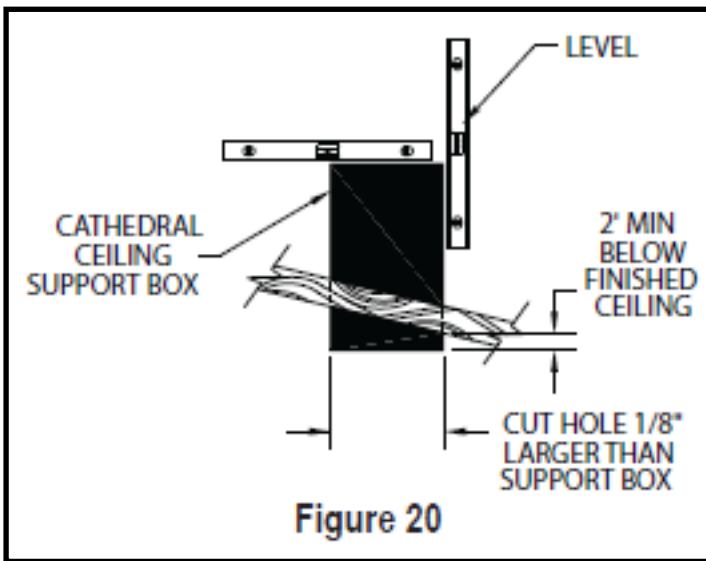

Figure 20
Step 4. Lower the Support Box through the hole in the roof until Support Box protrudes at least 1-inch below the low side of the ceiling (Fig. 20). Align the Support Box both vertically and horizontally with a level. Temporarily tack the Support Box in place through the inside walls and into the roof sheathing.